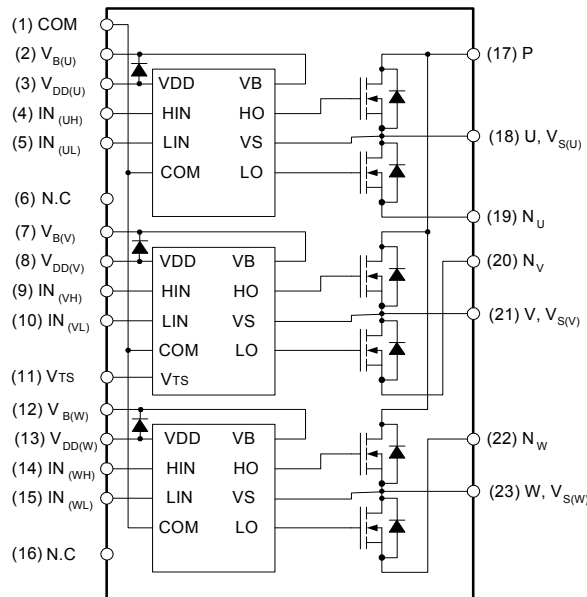

Figure 2. Pin Configuration and Internal Block Diagram (Bottom View)
8. Built-in bootstrap diode includes around 15 Ω resistance characteristic. Please refer to Figure 2.